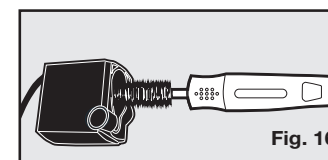

Fig. 16
- Once the pump is completely disassembled, you can clean the parts with warm water and soap. Use a cotton swab or the "motor brush" from the Drinkwell® Cleaning Kit to clean inside the pump's motor cavity and remove any build-up (Fig. 16). For added disinfecting and hard water removal, clean the pump's motor with a diluted white vinegar solution (20% white vinegar and 80% water).